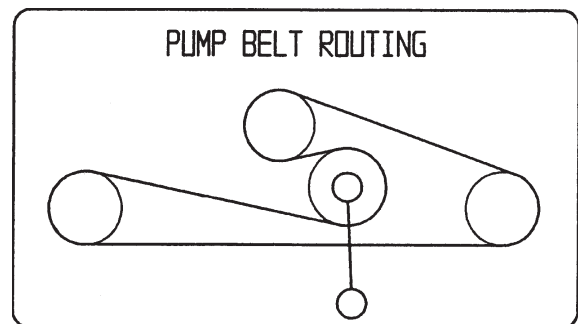

Figure 62
1. Pull the spring loaded idler down and remove traction belt from the engine and hydro pump pulleys (Fig. 62). Remove belt between pulleys.
2. Install new belt around engine and hydro pump pulleys (Fig. 62).
3. Pull spring loaded idler down and align below traction belt. Release pressure on spring loaded idler (Fig. 62).